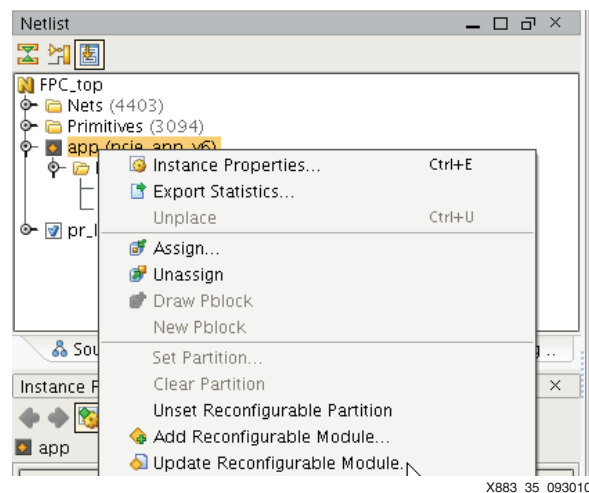

Figure 35: Update Reconfigurable Module
5. Right-click `app` in the Netlist frame and select **Update Reconfigurable Module** (see Figure 35). Click **Next**.